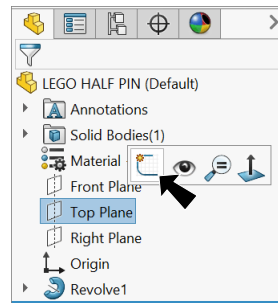

Fig. 7
Step 1. Click **Top Plane**  in the Feature Manager and click **Sketch**  on the context toolbar, **Fig. 7**.
Step 2. Click **Circle**  (S) on the Sketch toolbar.